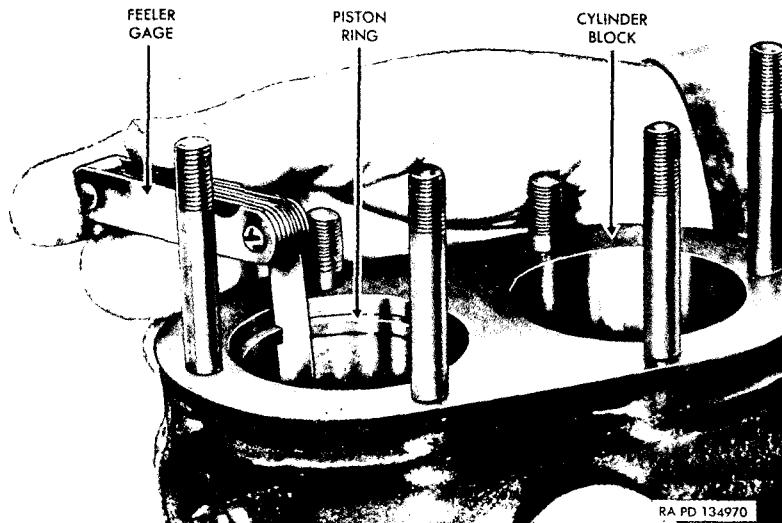

Figure 49. Checking piston ring gap.
- (1) Check piston ring gap by placing ring in cylinder, pushing it part way in with an inverted piston, measuring gap with feeler gage (fig. 49), and checking against gap prescribed in serviceability standards given in figure 51.